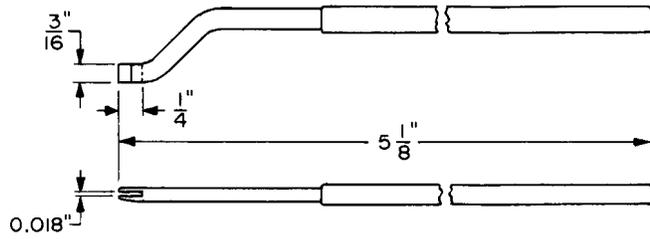

Fig. 13—549A Adjuster Tool
2.13 **549A:** The 549A tool (Fig. 13) is a spring adjuster used on 300- and similar-type switches.